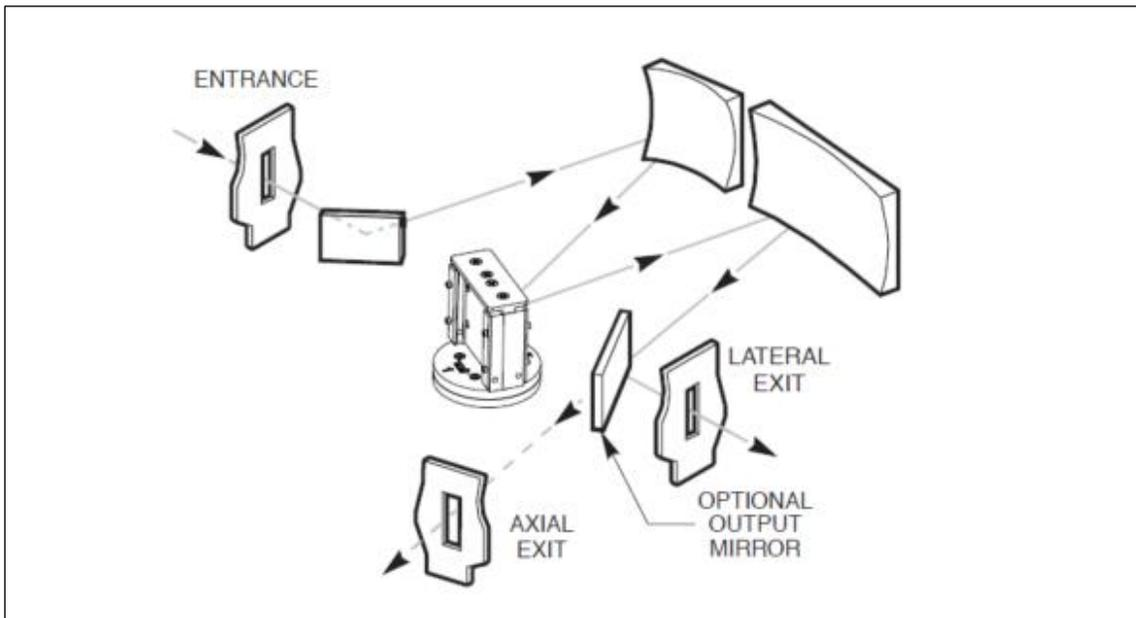

Figure 2: Optical configuration of the Cornerstone 260B with Dual Grating Assembly.
Like its predecessor models, the dual grating mount allows up to two (2) diffraction gratings to be installed back-to-back. Both gratings are pre-aligned on this mount which is then installed on the precision rotation stage. The gratings rotate 360° on the stage (Figure 2).